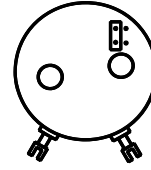

Fig.9: "220°-290° "
-Jumper left for measuring range between 220° and 290° (fig. 9)